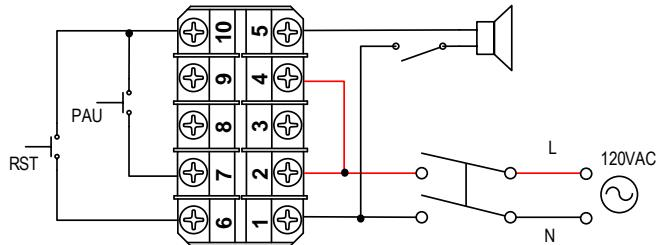

Figure 5. Connecting reset switch and pause switch to JSL-64A.
a) Connecting a normally open (NO) momentary push button switch between the pin (6, 7 or 8) to the COM (10). Please note, the function starts when you release (or open) the button of the switch, not when you press down the switch. See Figure 5.